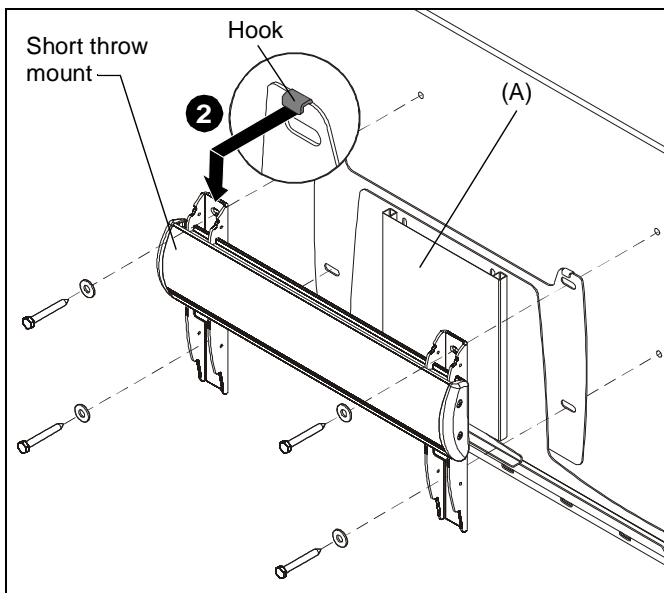

Figure 1
2. Hook top of MSP-HST1 over short throw mount. (See Figure 1)
3. Install MSP-HST1 with short throw mount to wall using hardware appropriate for wall construction and following installation instructions included with short throw mount. (See Figure 1)